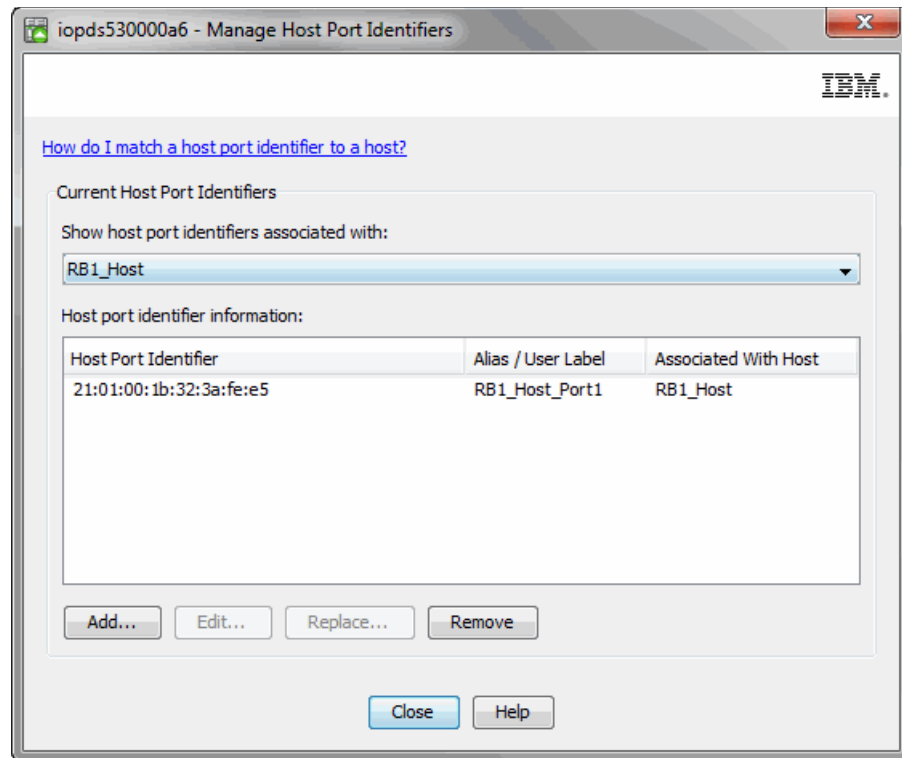

Figure 2-72 Add the WWPN
2. You can see a window, Manage Host Port Identifiers, as shown in Figure 2-72. Make sure that the host selected in the drop-down box matches the host to which you want to add the WWPN. Ours shows RB1_Host, which is the one to which we want to add the port. After verifying it, click **Add**.